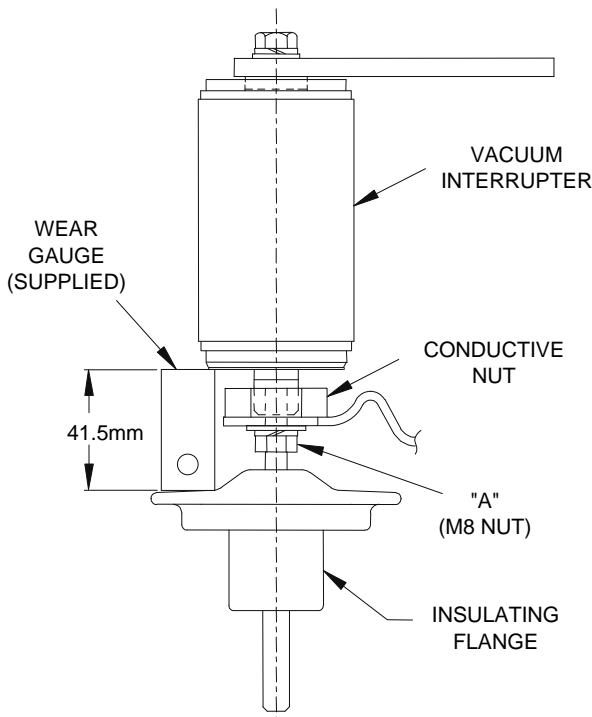

Fig. 11 Adjusting the Main Contact Gap.
- 2) As shown in Fig. 11, turn the insulating flange until the distance is 41.5mm or use the wear gauge supplied.